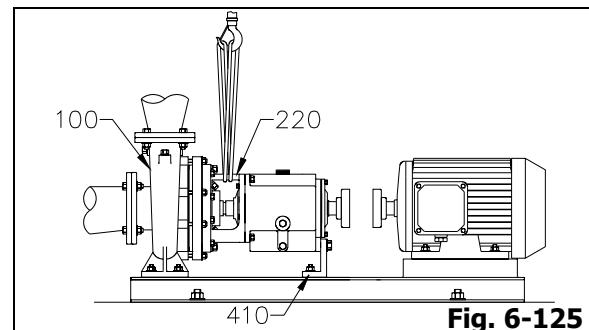

Fig. 6-125
- Replace shims (if used) under support foot (410), install and tighten support foot (410) hold down bolts and nuts to baseplate (Fig. 6-125).